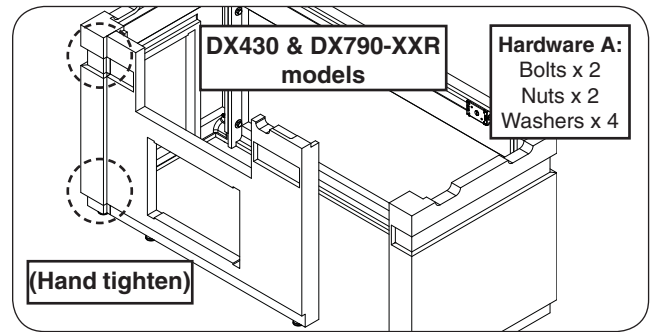

Fig. 10-1 Assemble front wall
1. Orient the front wall and repeat the hardware installation process (hardware kit A). Hand tighten only. See Fig. 10-1.